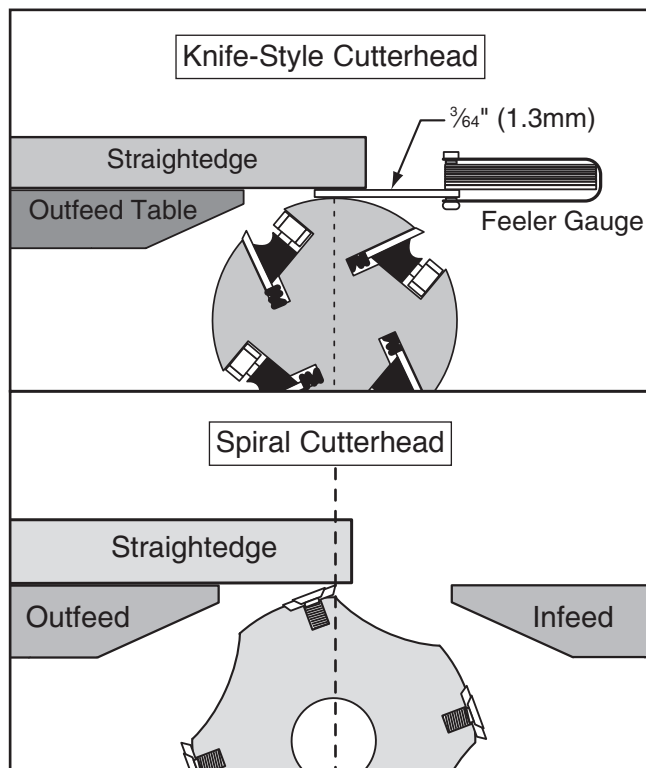

Figure 70. Checking the outfeed table for the correct height above the cutterhead.
7. Remove the front table cover to expose the table adjustment bolts, as shown in **Figure 70**.